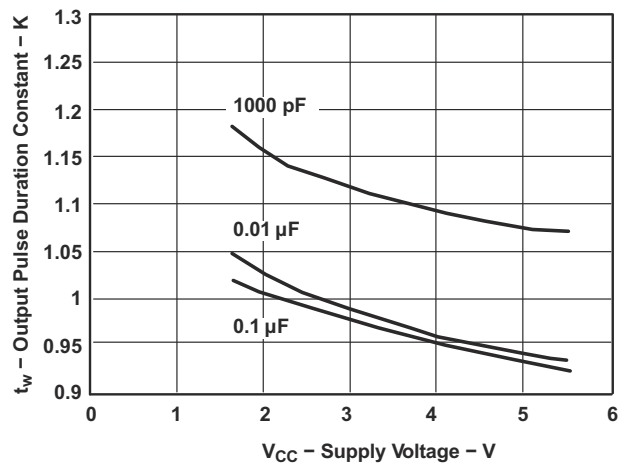

Figure 4-2. Output Pulse Duration Constant vs Supply Voltage
- The resistor value is calculated from the pulse length equation,  $t_w = K \times R \times C$ . By rearranging terms,  $R = t_w / (K \times C)$ . K is found in Figure 4-2 to be 0.925 for  $C = 0.1\ \mu\text{F}$  and  $V_{CC} = 5\text{ V}$ . Since the pulse width is a range from 1 ms to 25 ms, a range of R values will be given to match.  $10.8\text{ k}\Omega < R < 270\text{ k}\Omega$ . 100 k $\Omega$  is selected because it is already on our bill of materials from the pull-up resistor and will result in an output pulse of 9.25 ms.
- The resistor value is calculated from the pulse length equation,  $t_w = K \times R \times C$ . By rearranging terms,  $R = t_w / (K \times C)$ . K is found in Figure 4-2 to be 0.925 for  $C = 0.1 \mu\text{F}$  and  $V_{CC} = 5 \text{ V}$ . Since the pulse width is a range from 1 ms to 2 ms, a range of R values will be given to match.  $10.8 \text{ k}\Omega < R < 21.6 \text{ k}\Omega$ . 12  $\text{k}\Omega$  is selected because it is a standard 5% resistor value and yield a pulse length of 1.11 ms.